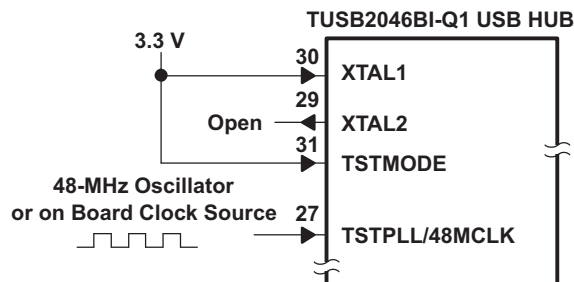

Figure 9. 48-MHz Input Clock Configuration
- A 48-MHz input clock configuration is shown in Figure 9.